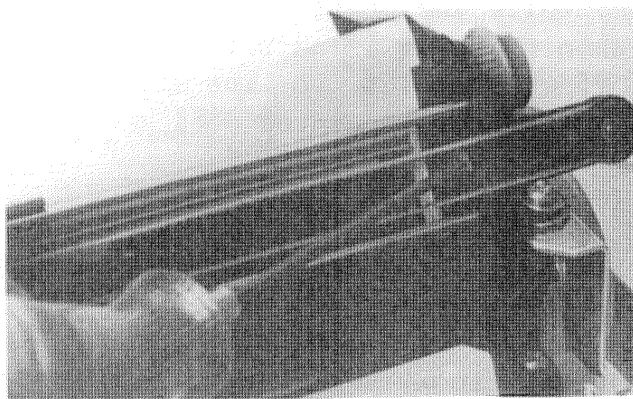

Figure 6-5. Adjusting Print-Head Drive Belt
- (1) Insert a 7/64-inch ballpoint hex screwdriver into the cap screw at the right side of the printer. (See figure 6-5.)
- (2) Turn the screwdriver clockwise 1/6 of a revolution.
- (3) Repeat steps c and d.
- (4) If the belt is not yet too tight, repeat steps (1) through (3).